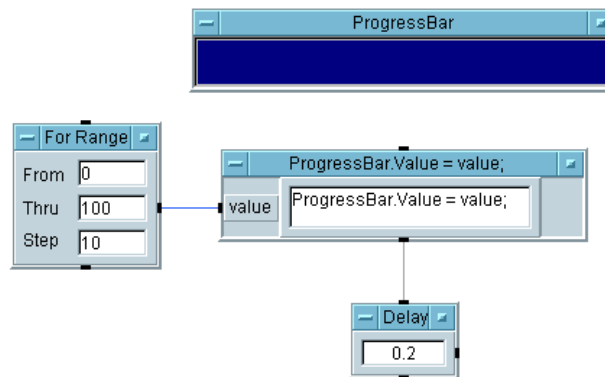

Figure 8-26. Using the ActiveX Control “ProgressBar”
5. To slow down program execution so that you can see the ProgressBar updating, select Flow $\Rightarrow$ Delay and place the object to the right of the For Range object. Set it to .2. Connect the For Range sequence output pin to the Delay object sequence input pin, as shown in Figure 8-26, and run the program.